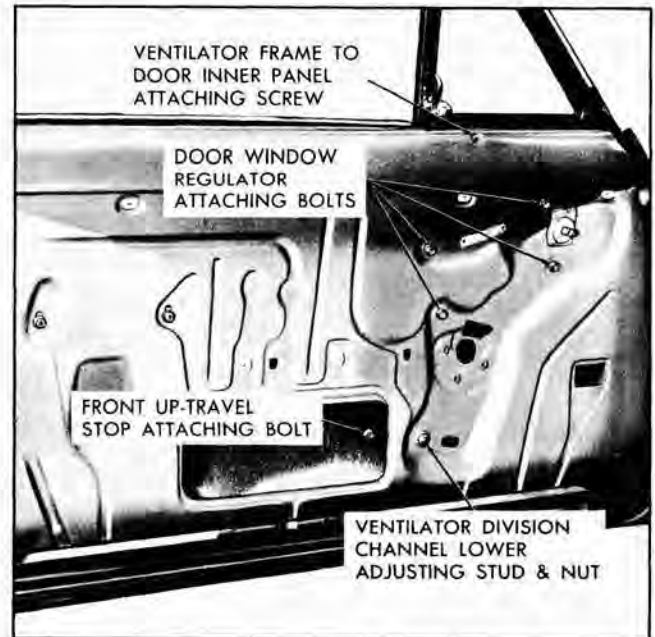

Fig. 13-20 Front Door Inner Panel
2. Remove ventilator division channel lower adjusting stud and nut (Fig. 13-20).
4. Remove ventilator frame to door inner panel attaching screw (Fig. 13-20).
2. Lower door window and remove front up-travel stop (Fig. 13-20).